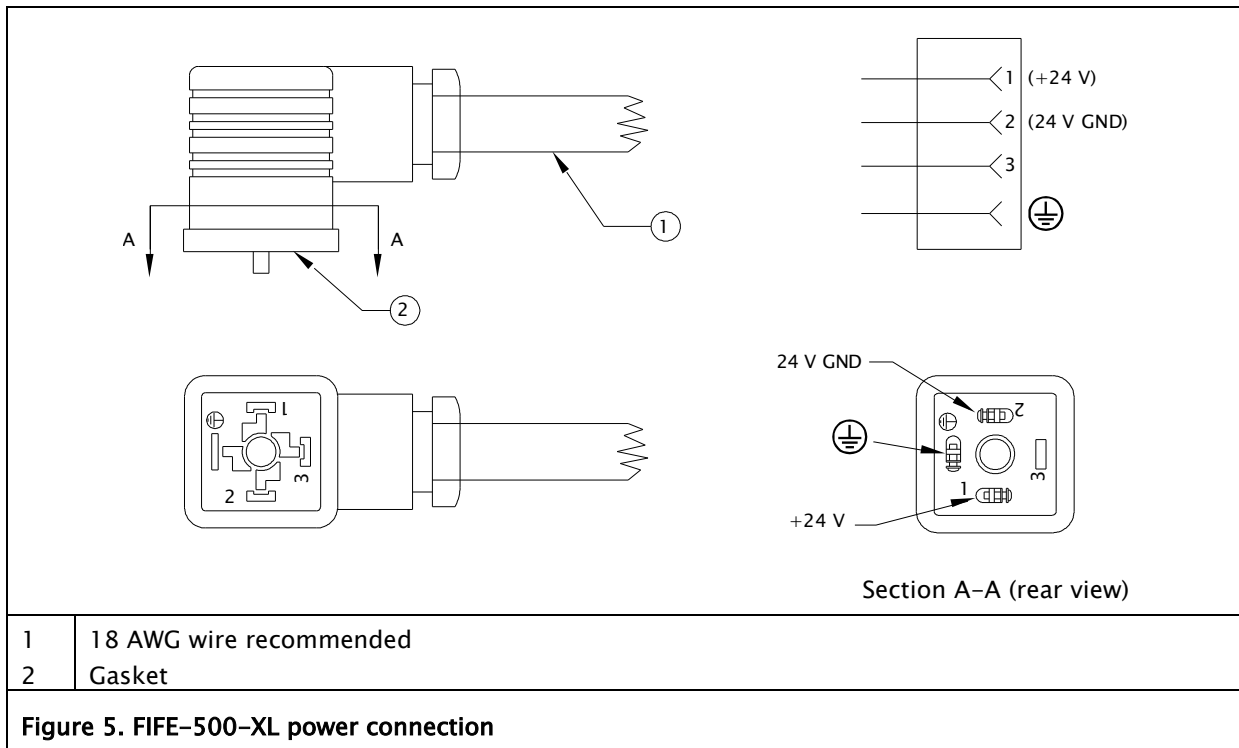

Figure 5. FIFE-500-XL power connection
4. Connect a 24 VDC +/-25% power supply to pins 1 and 2 of the power connector. Pin 1 should be positive and pin 2 should be negative. See Figure 5.
5. Connect the PE of the building or machine to the power connector terminal marked with the PE symbol.  See Figure 5.